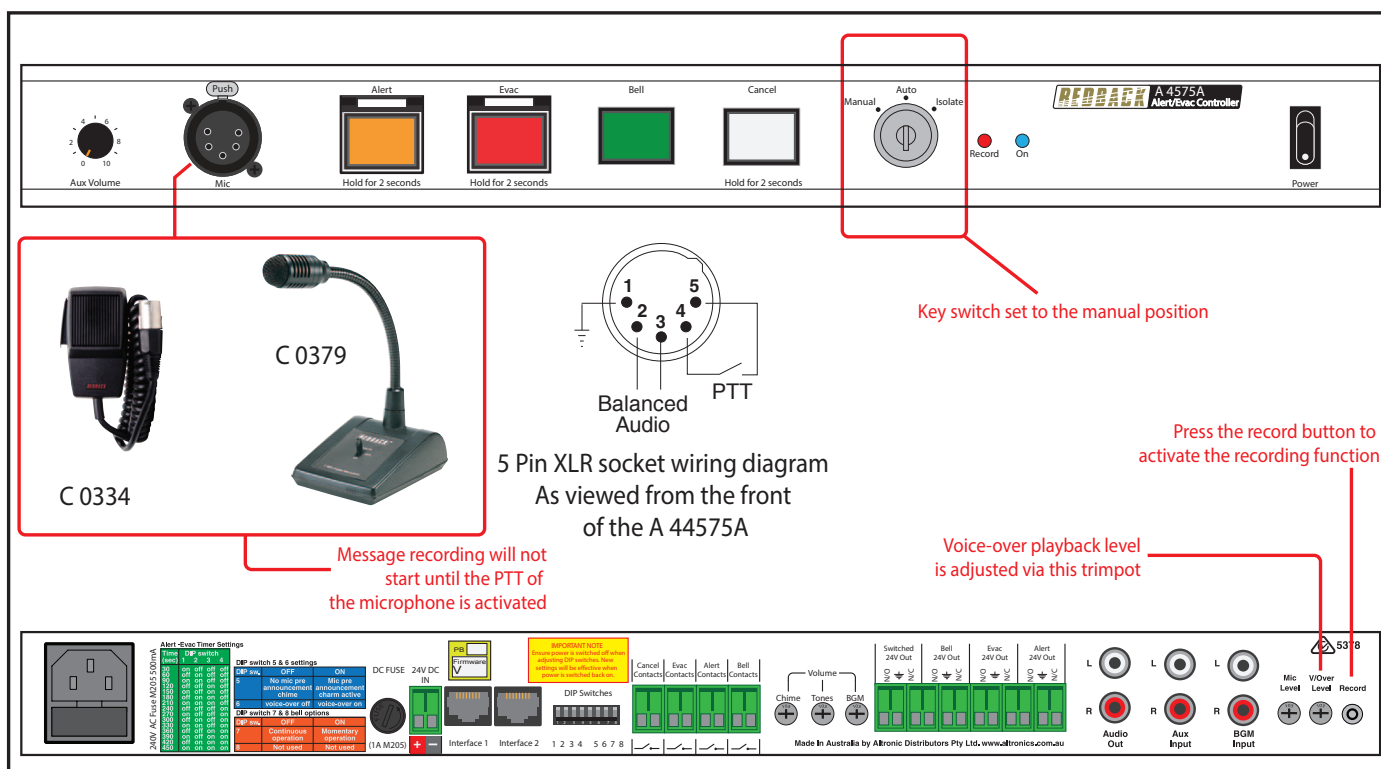

Fig 2.6
- 1) Connect a push to talk microphone to the front panel XLR input socket. The microphone must have the PTT (push to talk) function. The wiring for these microphones can be seen in Fig 2.6. Suitable microphones with the PTT function include the Altronics C 0334 CB type microphone and the C 0379 desk paging microphone. Set the keyswitch to "manual" (the unit will not record in the "auto" or "isolate" positions).
4. Message recording will finish when the PTT microphone is de-activated. The recorded message will then be played back. The output level of the recorded message can be adjusted using the trimpot on the rear of the unit as shown in Fig 2.6.